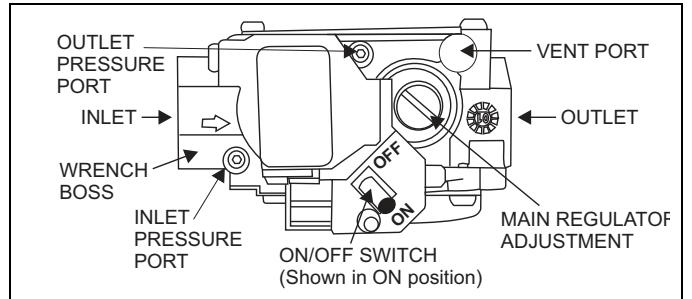

FIGURE 25: Gas Valve
Inlet and manifold gas pressure may be measured by connecting the "U" tube manometer to the gas valve with a piece of tubing. Follow the appropriate section in the instructions below. Refer to Figure 25 for a drawing of the locations of the pressure ports on the gas valve.
- 1. Refer to Figure 25 for location of pressure regulator adjustment cap and adjustment screws on main gas valve.